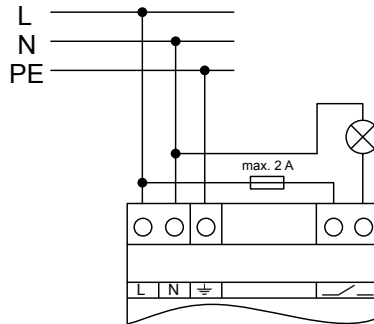

Figure 5: Application example – signal lamp for optical operating display
- Connect the signalling device according to the connection example (Figure 5).